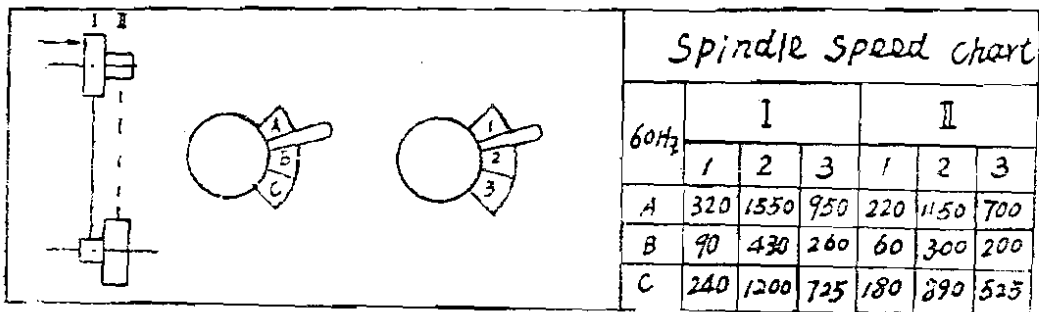

Fig. 14 Spindle Speed Chart
- * With the help of lever (1), (2) and v-belts the headstock can provide 18 or 9 step speeds from 60 to 1500 r.p.m as shown in "spindle speed chart" located on the front side of headstock (see Fig. 14)
- * Starting & stopping of spindle can be made merely by the starting lever(11). Moving the lever (11) up, the spindle will be counter-clockwise rotation; starting lever (11) down, the spindle will be reverse rotation.